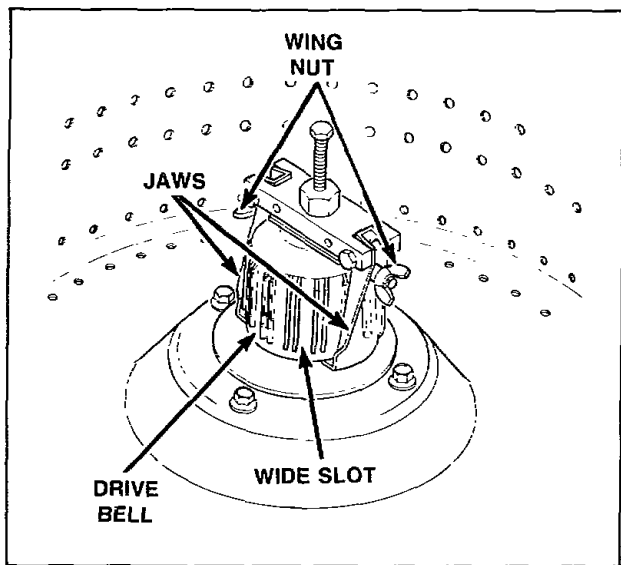

Figure 14
- f. Place the tool over the bell making sure the indent on the jaw lines up with the wide slots on the bell, *Figure 14*.
- h. Place the lip of each jaw under the bottom edge of the drive bell, making sure the indent on the jaw lines up with the wide slots on the bell. Then tighten the two wing nuts to hold the jaws firmly against the drive bell, *Figure 14*.